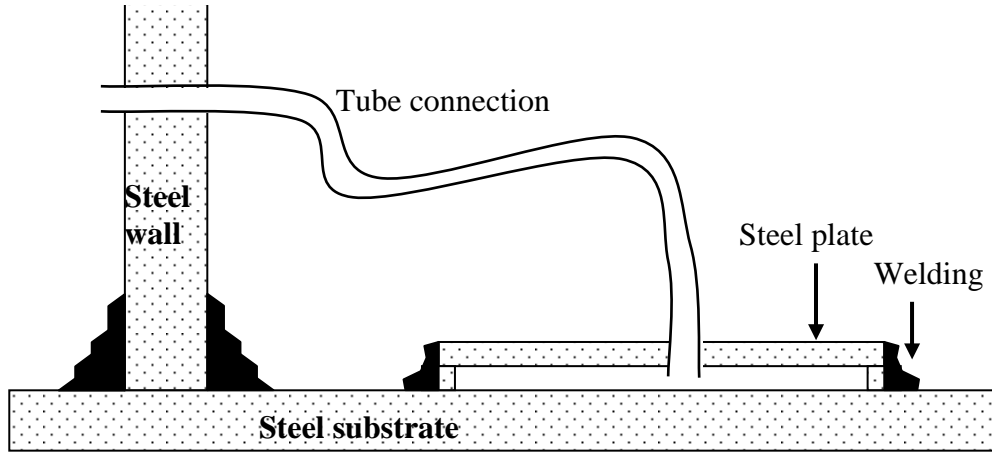

Figure 7
This type of connection has a very strong bonding to the tank floor structure and can be connected by a fixed or a flexible tube to the tank wall. In case of a fixed tube it should have a two-direction curvature to allow some flexibility between tank wall and floor (figure 7).
1. As described in figure 7.